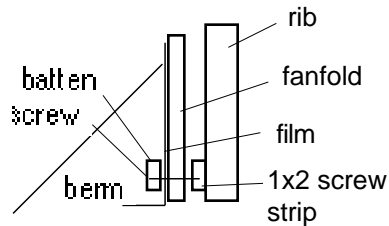

Fig. 8. Roof film edge connection
- m. Screw a treated 1x2 batten over the film into the 1x2 screw strip previously screwed or lashed to the ribs, Step 5f (Fig. 8). Space screws close enough for good friction clamping of the film between the two 1x2's. This anchors the film and fanfold for the full length of each side.
5m. Batten options (Fig. 8). On hangars over about 30' span, longitudinal racking in strong winds is reduced by adding a second batten on each side as high as one can easily reach from a step stool. Screw this batten through the fanfold before adding the roof film. this connection adds structural continuity to the rib-stiffened shell.